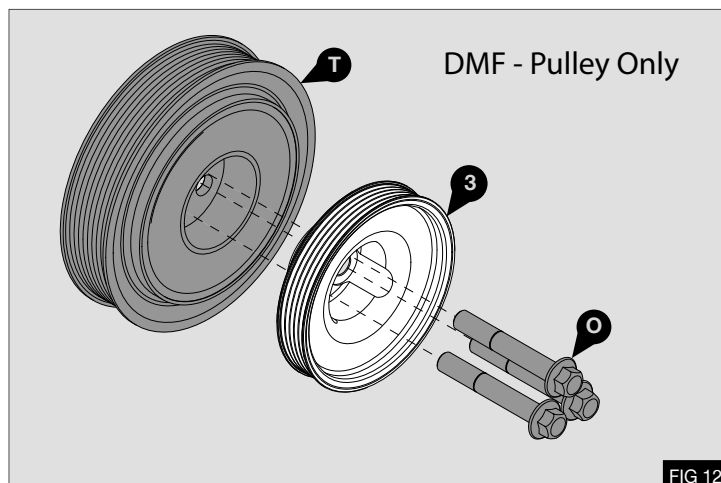

FIG 12
5. Assemble the supplied crankshaft pulley (3) and to the original crankshaft damper type (T) and fix to the original position using the original bolts (O) - Fig 12